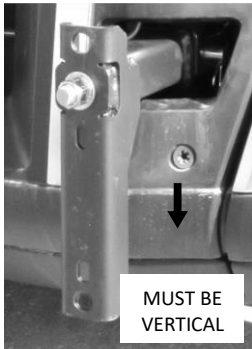

Figure 1c: Installation of Submount
2. Install Submounts over Tow Receiver Mounts (**Orientation shown in Figure 1c**). **Torque lock nut into Submounts on threaded rod of Tow Receiver Mounts (Figure 1c) to 240 ft-lb.**